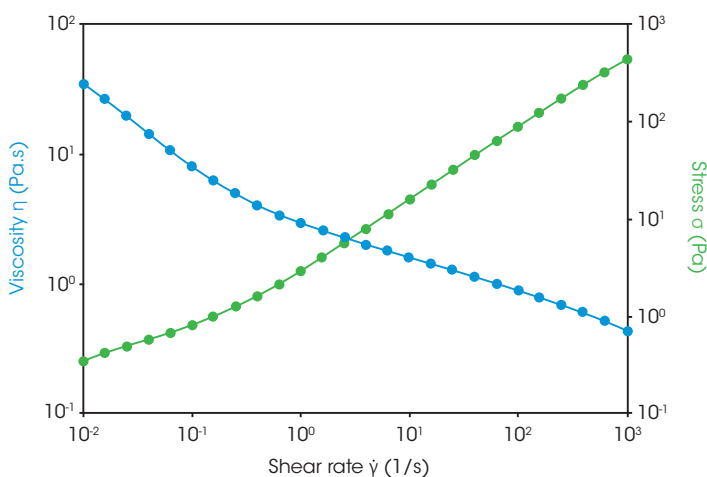

Figure 1. The viscosity of anode slurry over a wide range of shear rate
Understanding the formulation stability and flow behavior of the battery slurry is critically important for electrode manufacturing. Some manufacturers choose to use a low-end viscometer with single point analysis, which is not sufficient because it cannot fully reflect the flow property of the slurry. Two formulations may have the same viscosity at a single point shear rate, but they can have significant differences in their stability and coating performance. Slurries are shear thinning, its viscosity decreases with increasing shear rates. Figure 1 shows the rheological viscosity testing results of a battery anode slurry over a wide range of shear from 10^{-2} to 10^3 1/s, representative of the die slot coating process used in electrode manufacturing. The testing results indicate that this slurry exhibits shear thinning behavior. Table 1 shows the summary slurry viscosity over the shear rates, which provides important guidance to slurry formulation and the coating processing conditions. A good formulation should have a lower high-shear rate viscosity, which ensures an easy and homogeneous coating on the collector; while remaining a higher low-shear rate viscosity to ensure slurry stability (2).